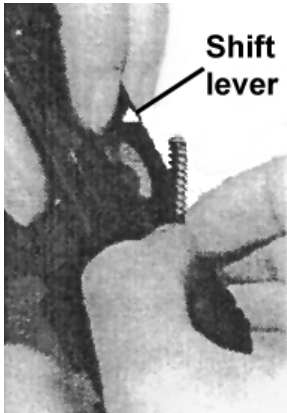

Figure 8
- Hold *shift lever* forward with finger and flick the *compression rod/counting wheel* union to the inside of the trigger mech. (Fig. 8)